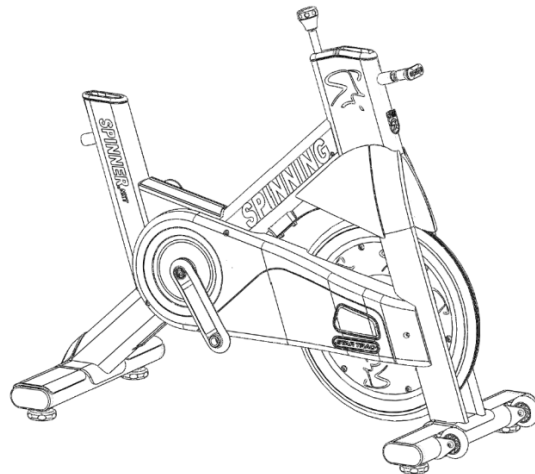

Fig. 14
14. Return the bike to the upright position (Fig.14).